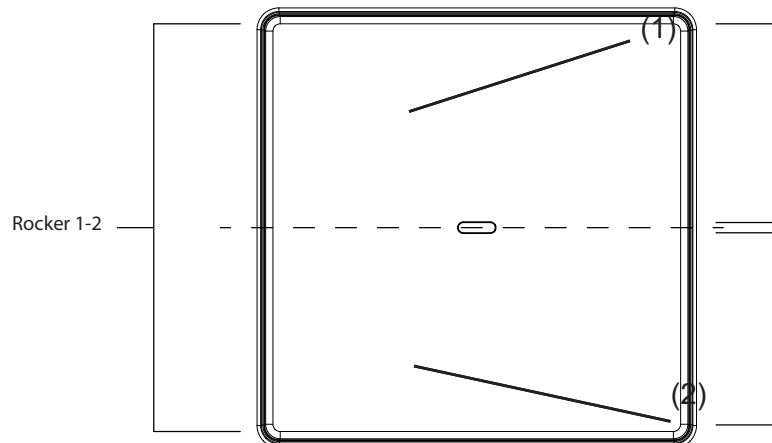

Figure 10: Push-button BCU, 1gang
- Press button 1 (Figure 10, 1) and button 2 (Figure 10, 2) simultaneously for 5 seconds. All device LEDs flash.
- Press button 1 (Figure 10, 1). All LEDs in the device are dimmed by 10% every time the button is pressed, down to the same brightness value.
- Press button 2 (Figure 10, 2). All LEDs in the device are brightened by 10% every time the button is pressed, up to the same brightness value.
- Press button 1 (Figure 10, 1) and button 2 (Figure 10, 2) simultaneously for five seconds again.